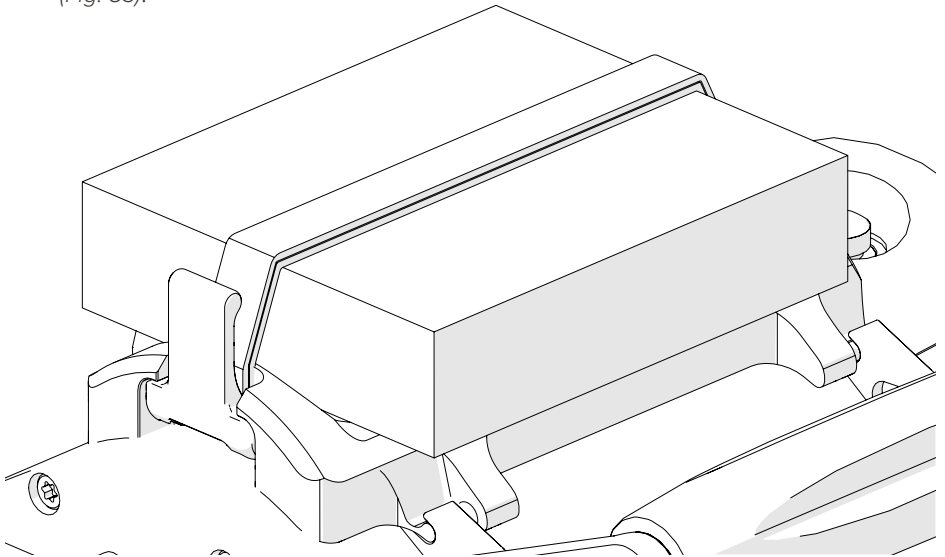

Fig. 84 - Press lever into backpack to lock in place
2. Place the scanning accessory on the backpack. Pull the strap lever across the accessory and fit the lever into place on the backpack (Fig. 84)